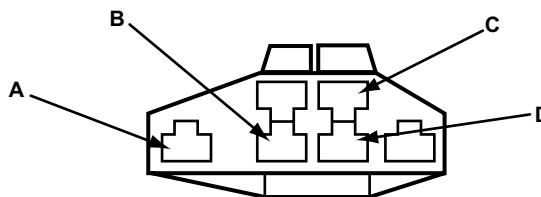

Figure 12-28 1993–94 Navajo with 4WAL
1. With the key off, jump the white, light blue, and black wires (Figure 12-28).